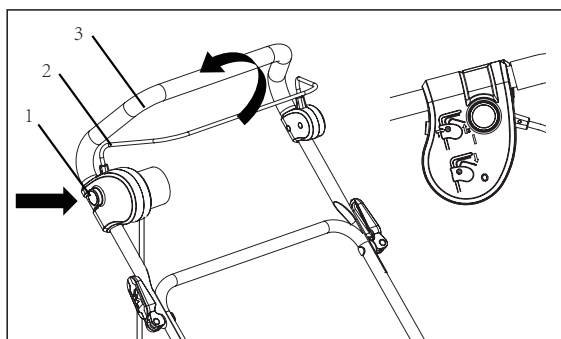

Fig. 18
1. Press the lock-off button (1) and pull the start/stop lever (2) against the handle (3), hold it in position during operation (Fig. 18).